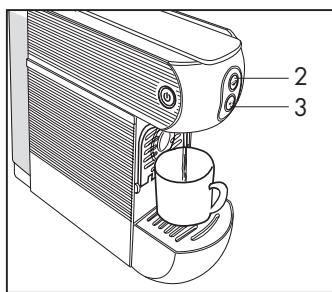

Fig. 6
- When the dispensing buttons (2-3) appear with a fixed light the machine is ready for use. Press the dispensing button (2), the machine dispenses water (**Fig. 6**); press the dispensing button (2) again when it reaches the desired amount of water. The rinsing operation is ended when at least three cups of water have been dispensed.